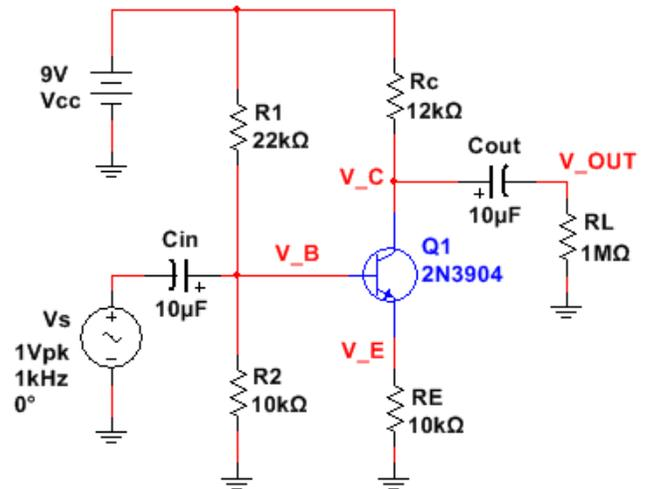

Fig. 2: Common emitter amplifier.
- **Step 1a:** Build the common emitter amplifier in Fig. 2.